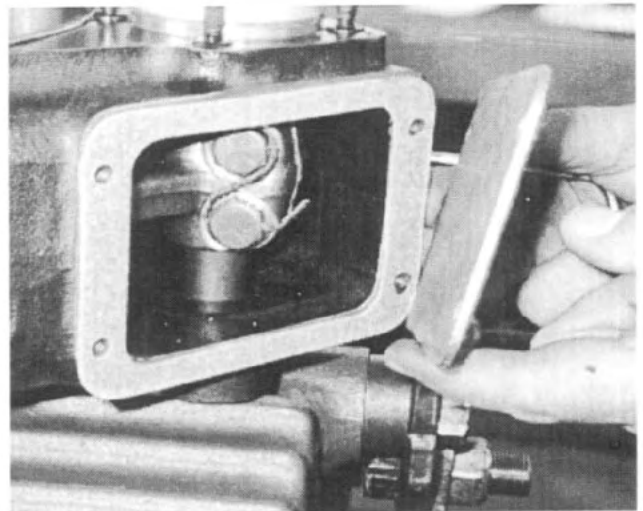

Fig. 95
33. Using a new gasket, secure the declutch housing cover plate with four (4) 1/4-20 bolts. Torque to specification. See Fig. 95.